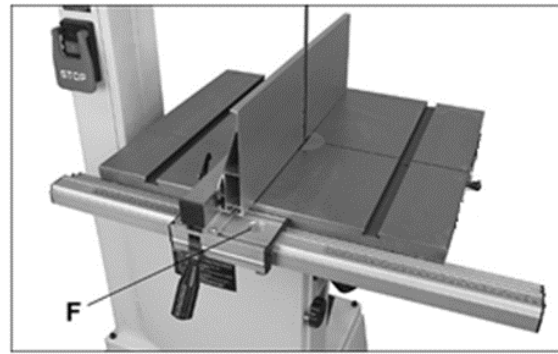

Figure 5-20
2. Move fence against blade (do not deflect blade by pushing into it). See Figure 5-20.
1. With fence against blade, verify that cursor (F, Figure 5-20) aligns with zero on scale.